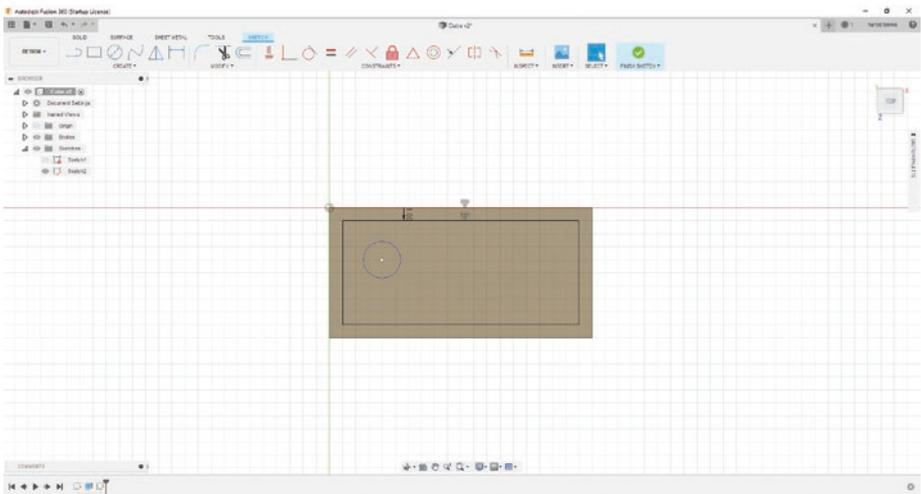

Figure 3-63. Place a circle on the grid
15. Place a circle on the top face, just like the offset. See Figure 3-63.